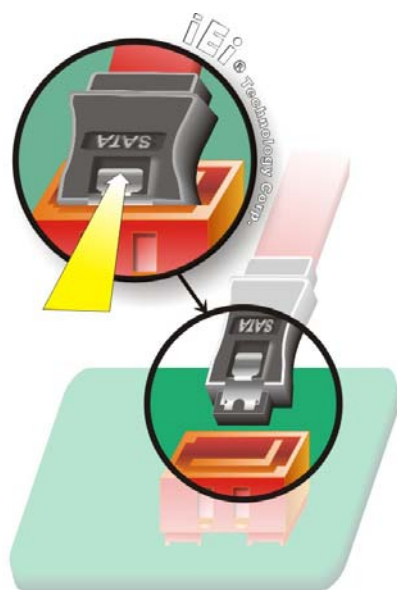

Figure 5-11: SATA Drive Cable Connection
Step 2: Insert the cable connector. Press the clip on the connector at the end of the SATA cable and insert the cable connector into the on-board SATA drive connector. See **Figure 5-11**.